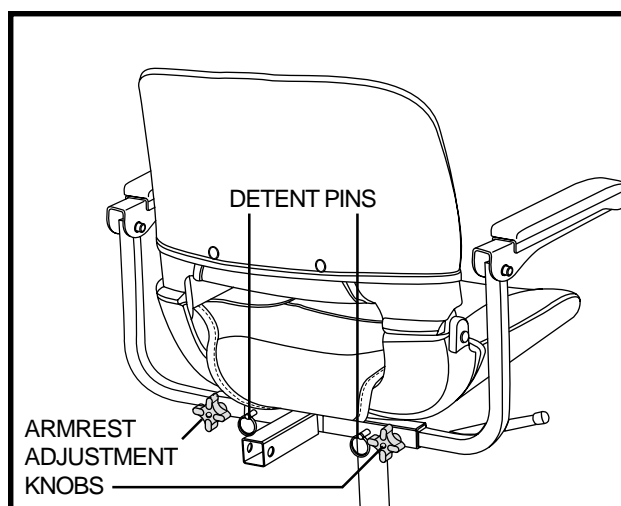

Figure 17. Armrest Width Adjustment
1. Loosen the armrest adjustment knobs. See **figure 17**.